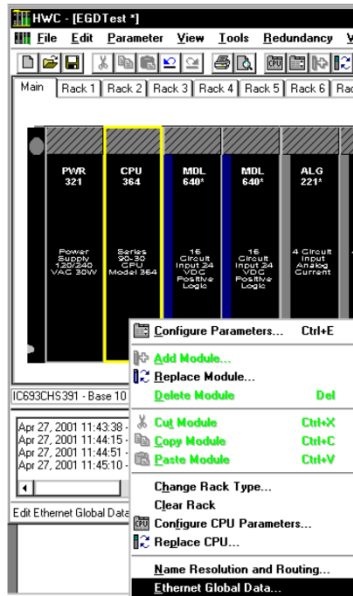

Figure 54: Configure Parameters Menu - CPU
- Next, right-click the CPU364 module. A short cut menu will appear as shown in Figure 54.